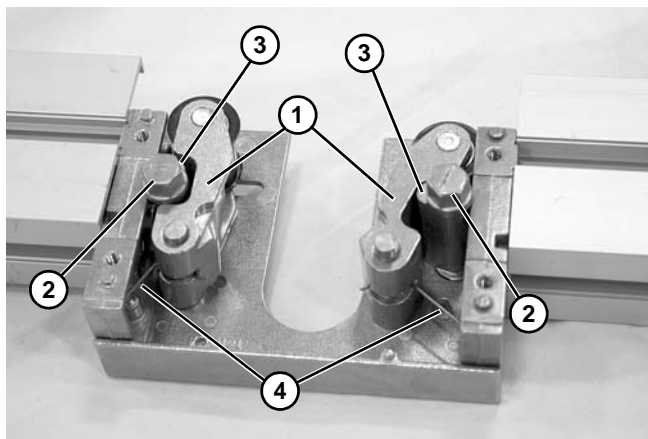

Figure 40
5. Remove tensioner block assemblies (Figure 40, item 1).
6. Remove tensioner cams (Figure 40, item 2). Inspect for wear and replace as needed.
When installing tensioner block assemblies (Figure 40, item 1) into side plate, make sure that the tensioner cam lobes (Figure 40, item 3) are facing up.
9. Assemble components in the reverse order of removal. Ensure that the springs are installed correctly; note the direction of the long leg as shown in (Figure 40, item 4)